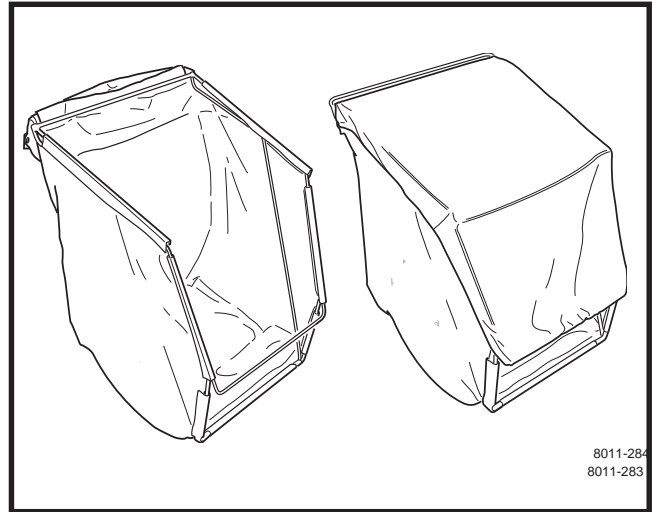

FIGURE 11
- Press on the snaps, one on each side. See Figure 11.